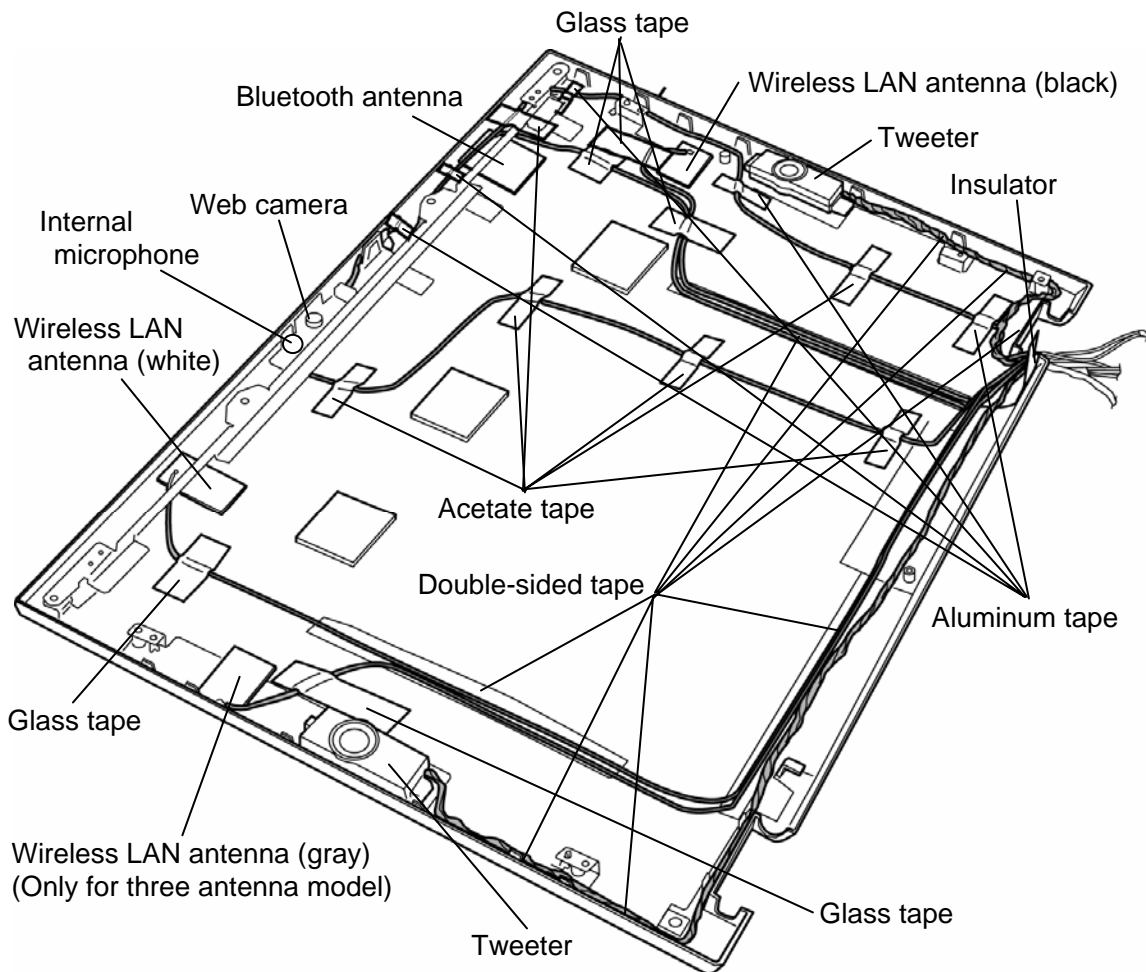

Figure 4-74 Removing the wireless LAN antenna/Bluetooth antenna
The following describes the procedure for removing the wireless antennas/Bluetooth antenna (See Figure 4-74).
The following describes the procedure for installing the wireless antennas/Bluetooth antenna (See Figure 4-74).
2. Arrange the **tweeter cables** on the double-side tape in place. (See Figure 4-74).
1. Peel off the **acetate tapes** and **aluminum tape** fixing the microphone cable and web camera cable. (See Figure 4-74)